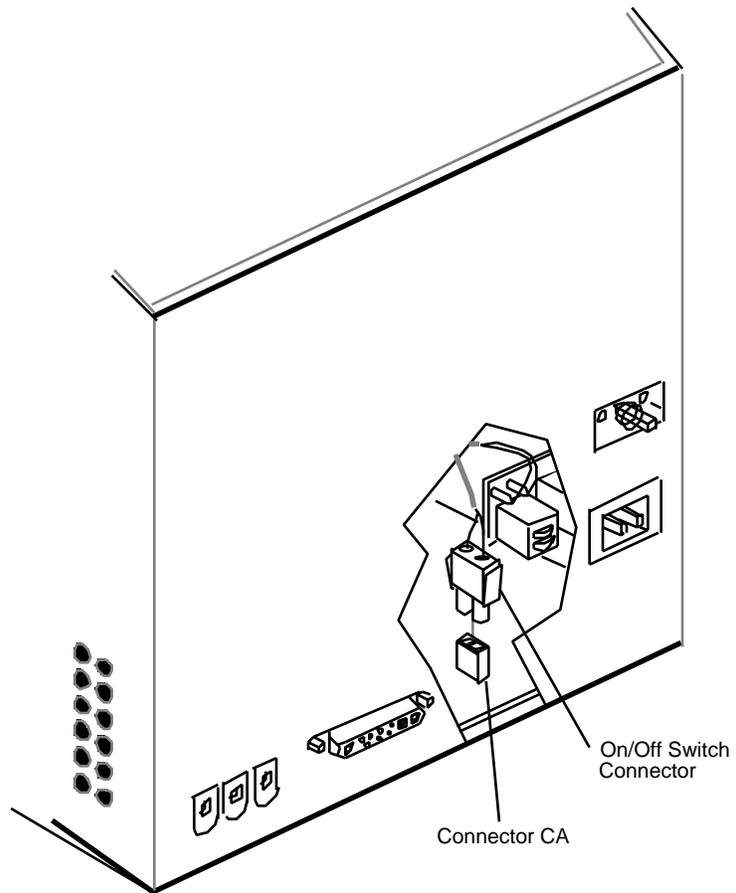

FIGURE 31
7. Connect the on/off switch cable to the connector labelled CA on the main deflection board (Figure 31).